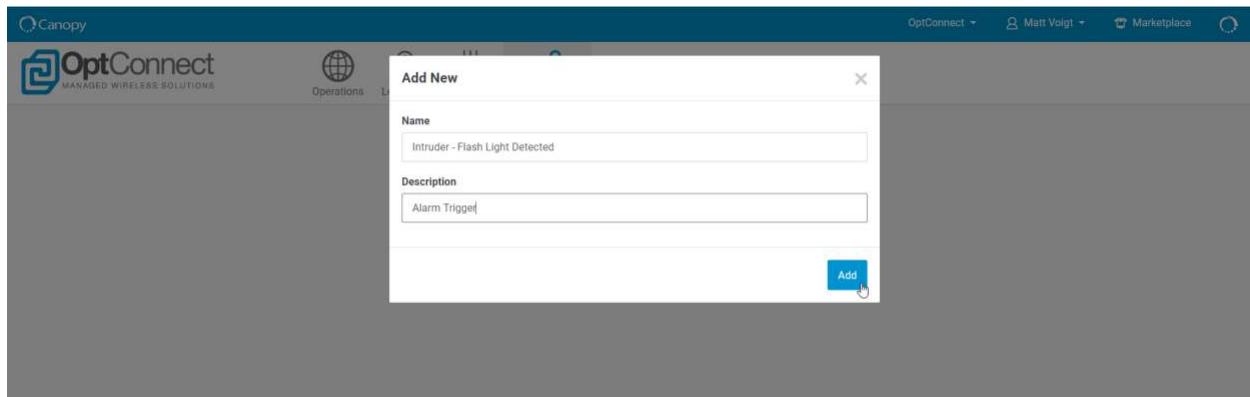

Figure 46
- On the right side of the screen click the “Add New” button to create a new IoT Campaign. Enter **Intruder – Flash Light Detected** in the Name Field and **Alarm Trigger** in the Description Field and click “Add” as shown in *Figure 46*.